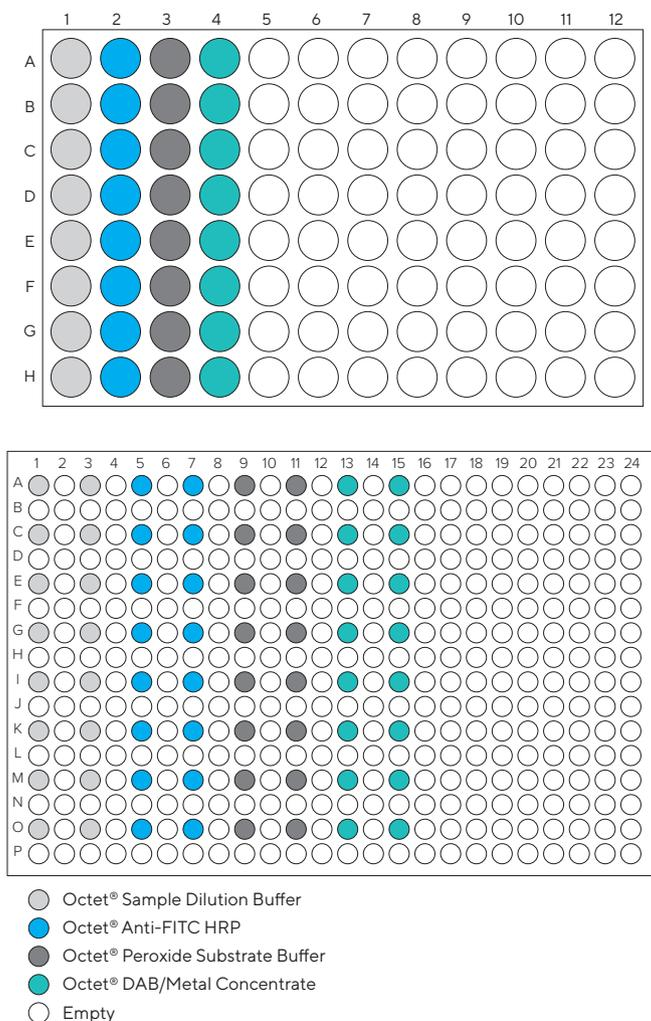

Figure 8: Detection Plate layout for 8-channel assays on Octet® R8 system (top) and for 16-channel assays on Octet® RH16 system (bottom).
- In a black, flat-bottomed 96- or 384-well microplate, pipette 200 µL or 80 µL respectively of each reagent specified into the wells of the microplate using the plate layout shown in Figure 8). Each reagent needs to be filled into all wells of one column (for 8-channel assays) or two columns (for 16-channel assays) in the Detection Plate.